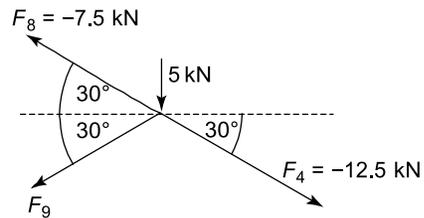

Figure 6.39
**Consider joint (5);** see Figure 6.39.